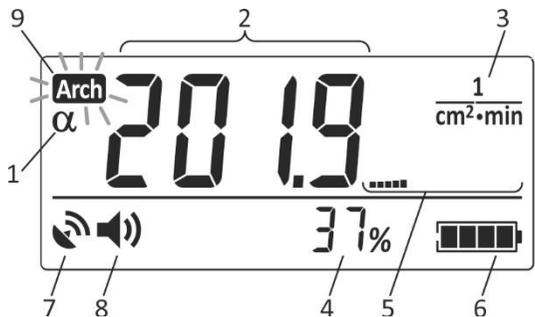

Figure 2.23 – LCD of the dosimeter (measurement of beta radiation characteristics)
2.3.6.7.2.3 The LCD of the dosimeter displays the following in this mode (Figure 2.23):
- “α” symbol (1) – radiation type being measured;
- measurement result (2);
- dimension of measurement result (3);
- estimated limits of expected relative statistical deviations (5) of the measurement result (4) given 0.95 confidence probability, hereinafter referred to as the estimated limits of statistical deviations;
- instantaneous value indicator (5).
- battery status symbol (6);
- navigation receiver status symbol (7);
- symbol of gamma quanta, alpha or beta particles sounding status (8);
- sign (9) of critical filling of the dosimeter’s nonvolatile memory, where DE accumulation history is stored (2.3.4 of this OM).